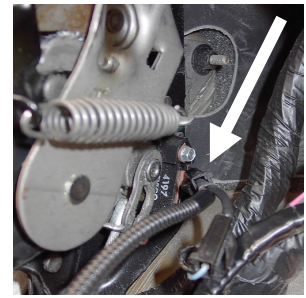

Fig. 1
- **Park Brake Circuit** - Disconnect the black, single-wire OEM connector from the park brake switch. Plug the female side of the Black connector from the Brown Wire at Pin #4 on the 6-Pin Lift Harness connector (Yellow Tape) into the parking brake switch. Install the male spade side to the female connector in the OEM harness. (See Fig. 1)